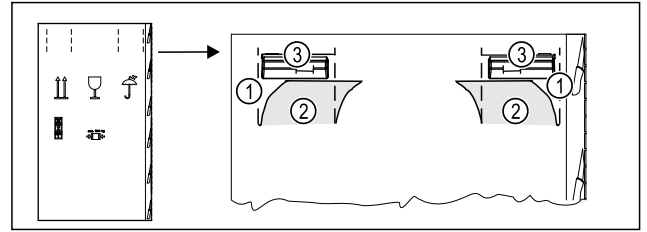

Fig. 6
- Press the packaging cardboard into the perforation Fig. 6 (1) at the top.
- Pull out any tabs Fig. 6 (2) that have been pushed in.
- Carrying handle Fig. 6 (3) visible on the right and left.
- Hold the appliance by the carrying handles Fig. 6 (3).